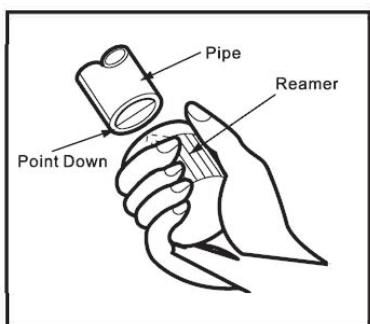

Fig. 6
- 2) Remove burrs on the cutting edges. Keep the pipe outlet down to avoid the metal powder into the pipe(Fig. 6).